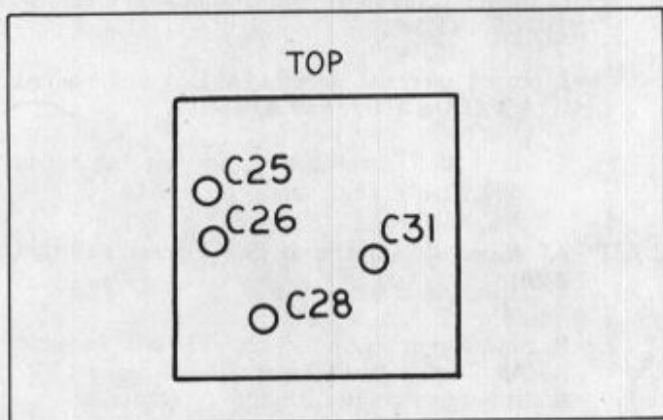

Figure 2-18. Trimmer Access Hole Locations, A7
2.5.31 A7 Assembly Adjustment (See Figures 2-18 thru 2-20)